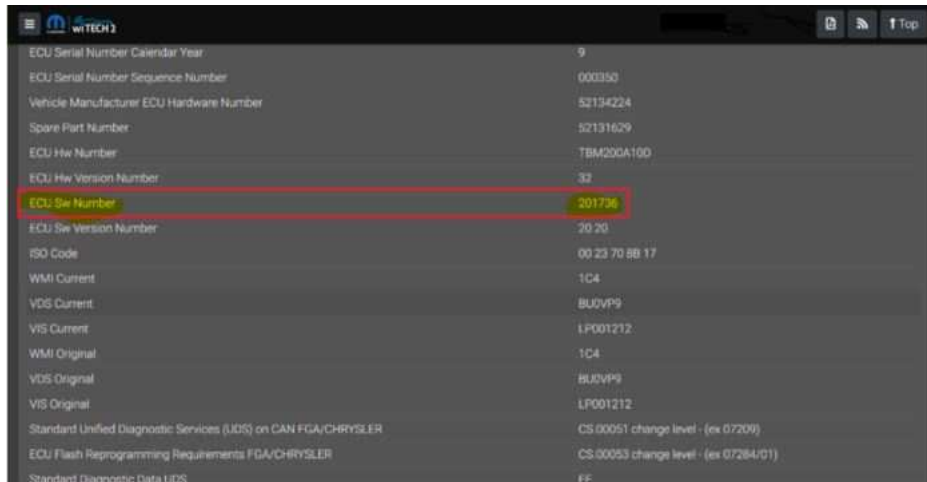

Fig. 1
- Using wiTECH check the TBM ECU software level. Select TBM2 on the Topology screen, then select ECU details and check for ECU Sw Number value (Fig. 1) .